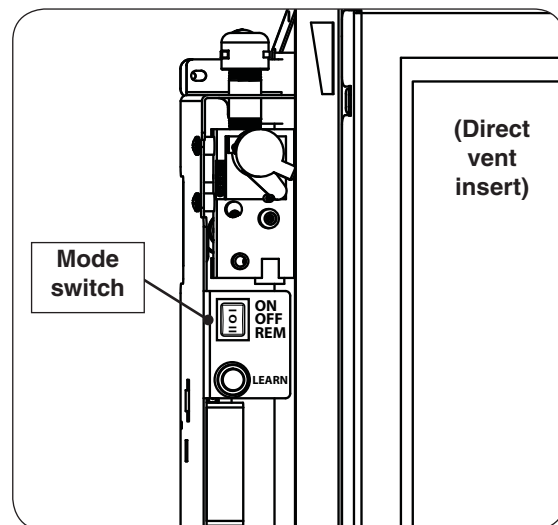
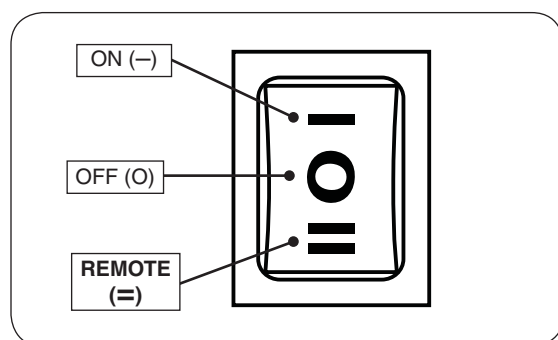

Fig. 29-1 Control box (left side of unit)
Fig. 29-2 Mode switch detail
1. Locate the 3-position mode switch on the control box (see Fig. 29-1). Press the switch down to the **REMOTE (=)** position (see Fig. 29-2). The system will beep.